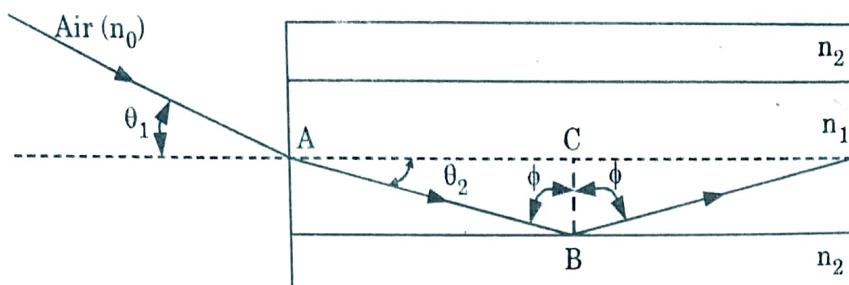

Fig. 1.6.2. The ray path for a meridional ray launched into an optical fiber in air at an input angle less than the acceptance angle for the fiber.
1. In the Fig. 1.6.2, it is observed that a light ray incident on the fiber core at an angle θ_1 is less than the acceptance angle θ_a .